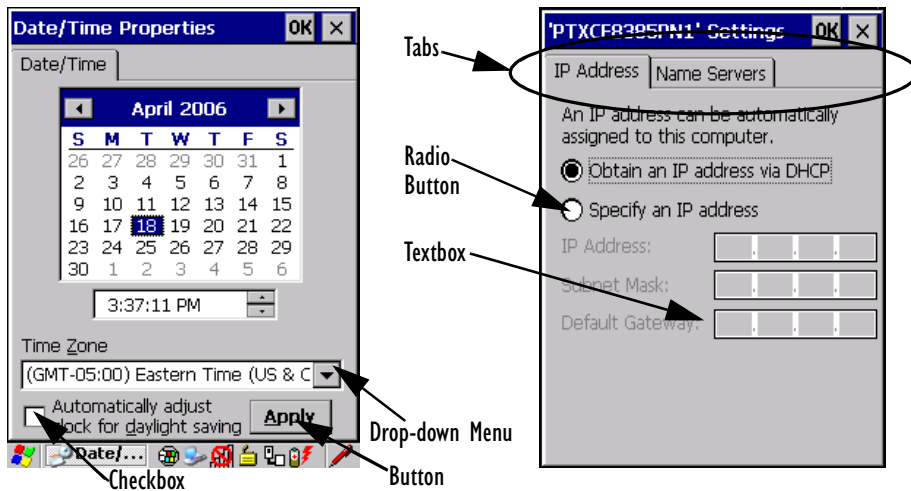

Figure 4.15 Dialog Boxes
A dialog box (like the samples in Figure 4.15) appears when you need to make selections and enter further information. You can move between dialog items by tapping on them with your stylus, or by pressing the arrow keys and the [TAB] key ([SHIFT] [TAB] moves the cursor backwards).
**Radio buttons:** These buttons allow you to choose from a number of options. For example, in the sample screen in Figure 4.15 on page 72 you can choose to *Obtain an IP address via DHCP* or *Specify an IP address*. Press the [TAB] key to highlight a radio button option, and then select a radio button by pressing the arrow keys to highlight the appropriate option.